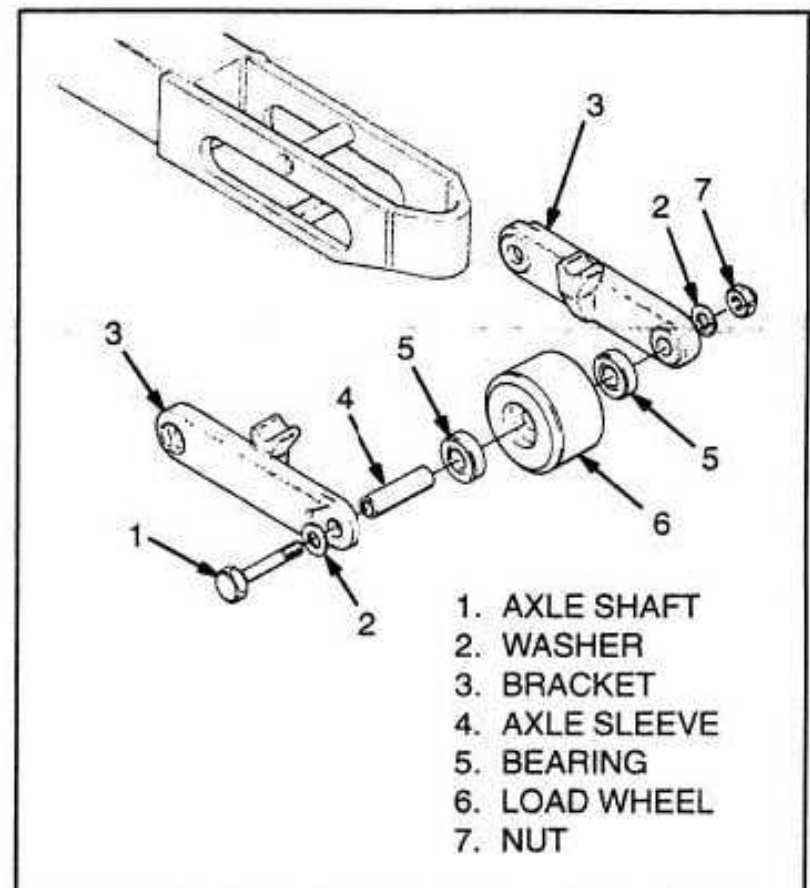

Figure 2-8 – Tandem Load Wheels
1. Pack the new load wheel with the recommended grease listed in the LUBRICATION SCHEDULE, this section. Install the new load wheel, axle shaft, axle sleeve, bearings, washers and axle nut. See Figure 2-8.